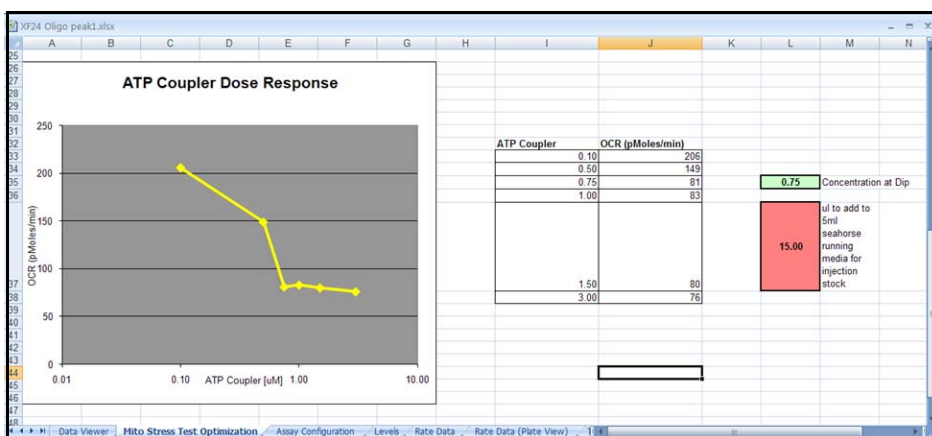

Figure 4.5
1. When the optimization experiment is complete, open the excel data output file, and choose the worksheet tab labeled "Mito Stress Test Optimization" (see Figure 4.5).